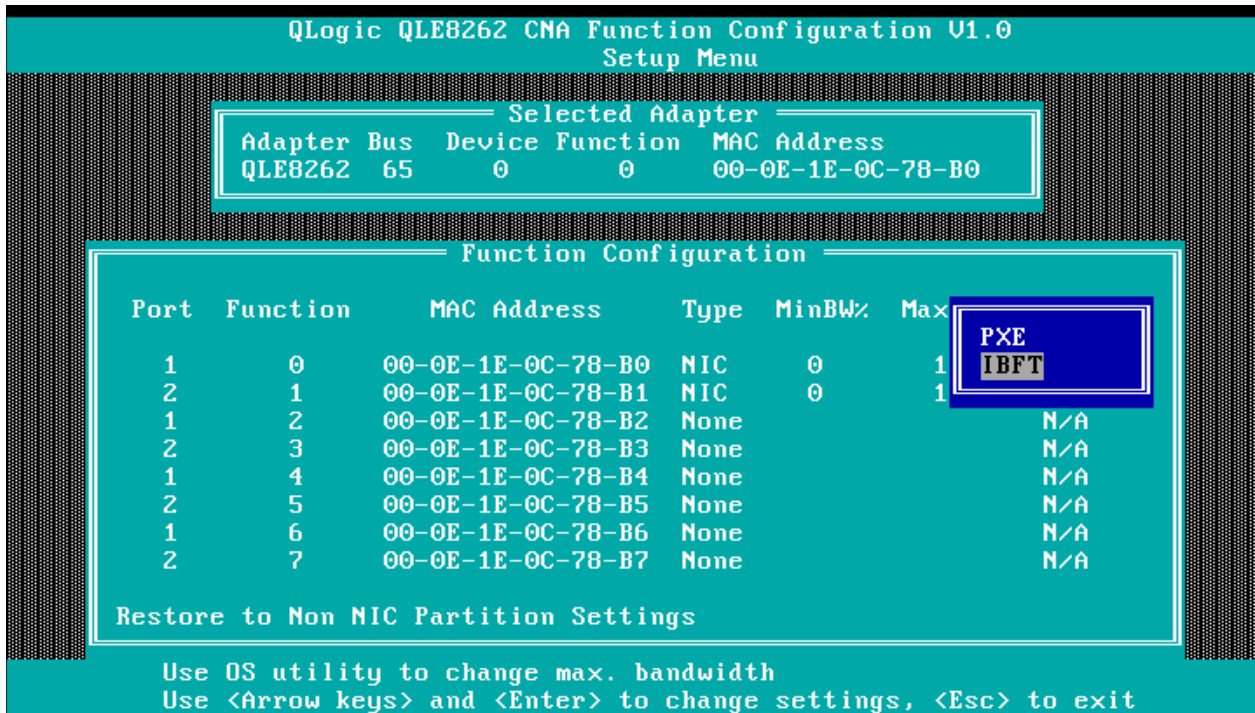

Figure 6 QLogic network adapter configuration menu
2. In the **Function Configuration** menu, change the protocol type to IBFT for network adapter ports used for iSCSI boot as shown in Figure 6.